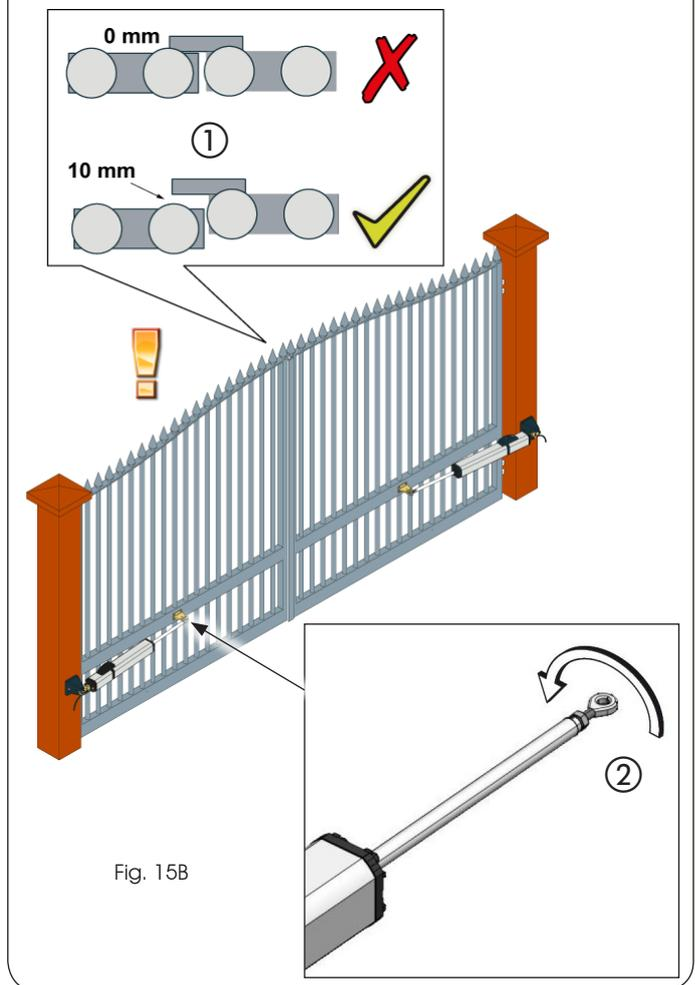

Fig. 15B
! * If the integrated closing stops are used, and the double leaf application with overlap has been installed, avoid the situation where, in the closed position, leaf 1 presses on leaf 2 (Fig. 15b ref. ①). To do this, adjust the joint, screwing it better into the stem, leaving a clearance between the two leaves of about 10mm (Fig. 15b ref. ②),